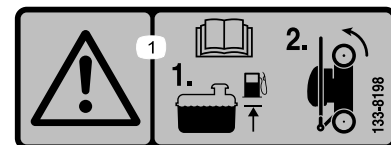

Figure 19
1. Ensure that the level of gasoline in the fuel tank is no higher than what is recommended by the engine manufacturer; refer to the engine manufacturer's decal on the engine (Figure 19).